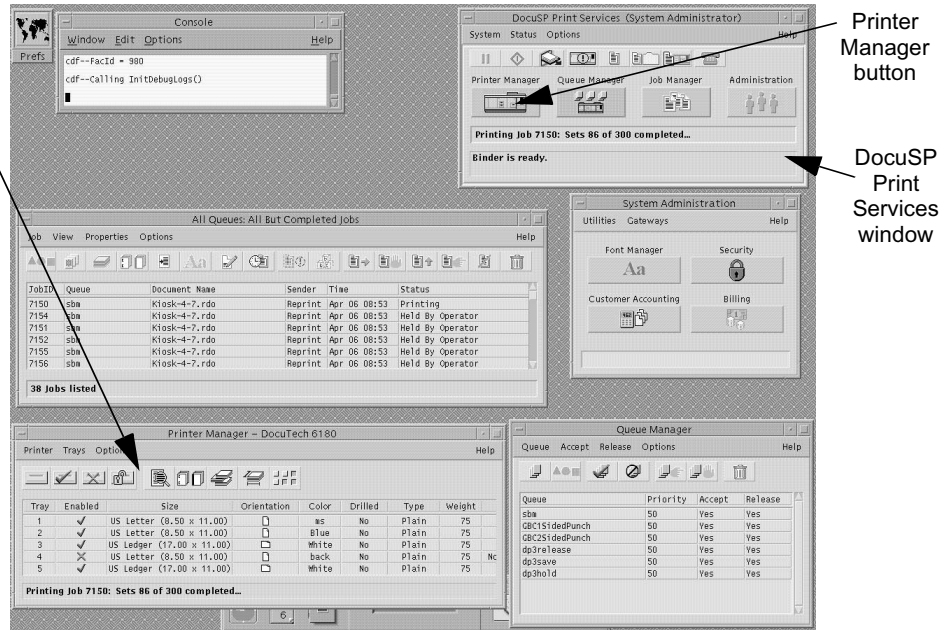

Figure 1-4: 61XX Monitor screen and Printer Manager window
- 1 From the 61XX Monitor screen, go to the **Printer Manager** window, as shown already open in Figure 1-4. If it is not open, go to the DocuSP Print Services window and click the Printer Manager button.